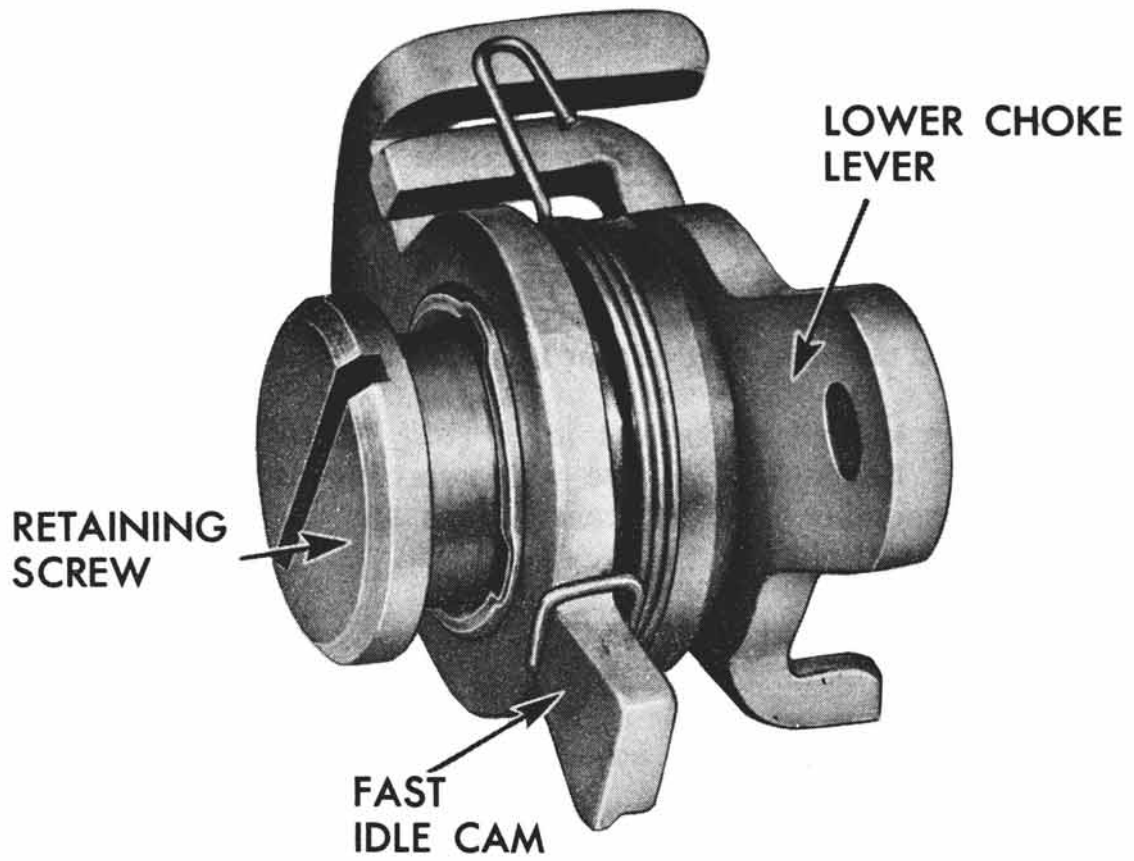

Fig. 31-C Assembly of Fast Idle Cam and Lower Choke Lever
9. Assemble the fast idle cam and lower choke lever on retaining screw (Fig. 31-C). Make certain tang of lower choke lever is installed under spring of fast idle cam as illustrated.